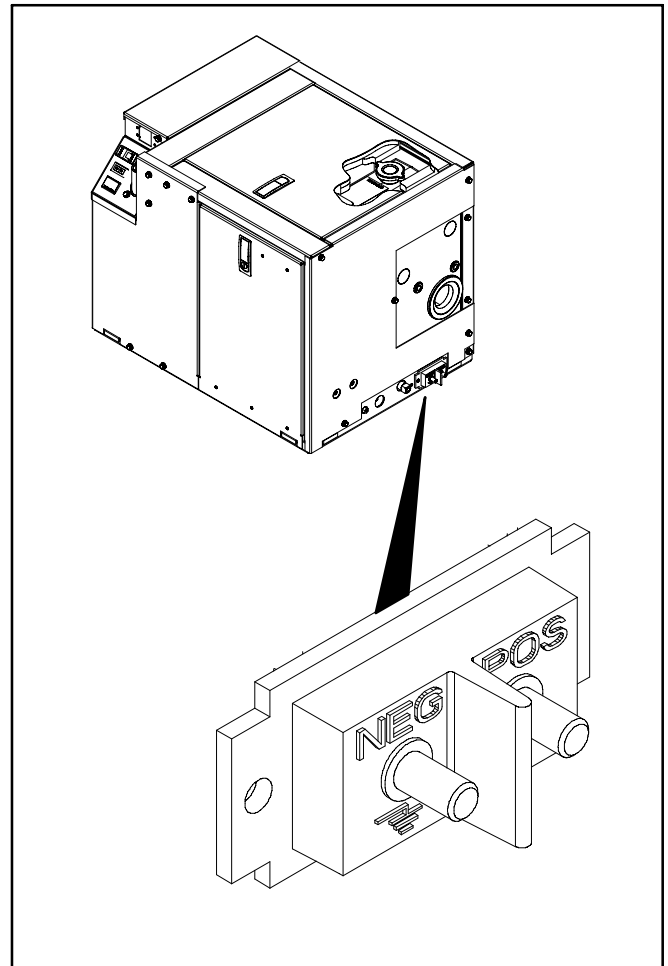

FIGURE 3-4. BATTERY CABLE TERMINALS
1. Keep the battery case, terminals and cables clean and dry and the terminals tight at the battery and at the genset (Figure 3-4).